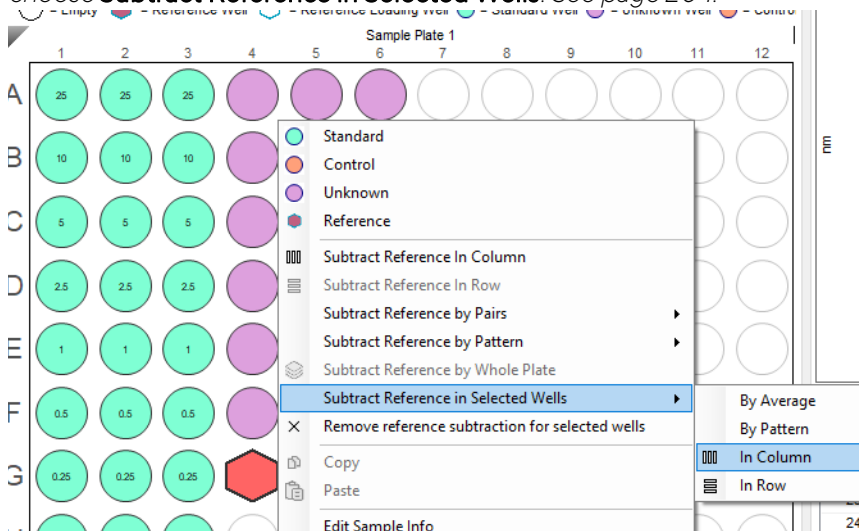

Figure 9-21: Subtract Reference Options
- To group reference wells for subtraction** - right click anywhere on the sample plate and select **Subtract Reference**. Select one of the following (Figure 9-21):